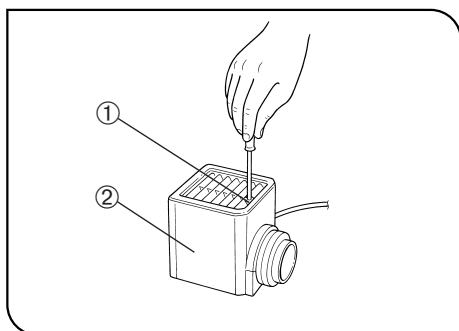

Fig. 77
(Figs. 77 to 79)
5. Fit the lamp housing from up and tighten the clamping screw ① by applying downward pressure. (Fig. 77)